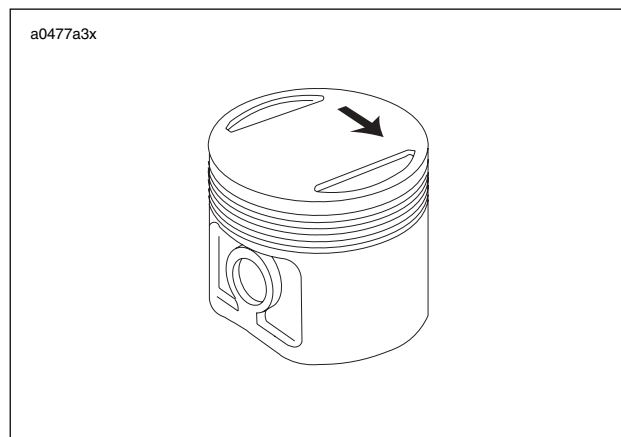

Figure 3-72. Piston Identification and Direction
9. See Figure 3-72. The arrow at the top of pistons must always point toward the front of the engine.